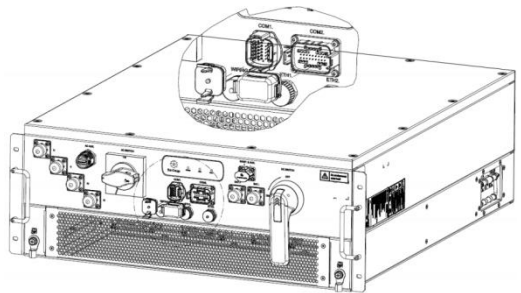

Figure 6-19 COM1. and COM2. dust plugs
Step 1: Remove the COM1. and COM2. dust plugs, as shown in Figure 6-19.